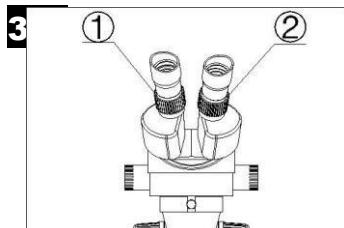

Fig.3
- 5) Observe the specimen through the right eyepiece and make the image clear by turning the right dioptric adjusting ring (2). (Fig.3)
- 6) Redo the step (1), (3), (4) and (5) till the right adjusting ring is more precise.
- 7) Do step (4) and make the image clear which is observed through the left eyepiece turning the left dioptric adjusting ring (1). (fig.3)